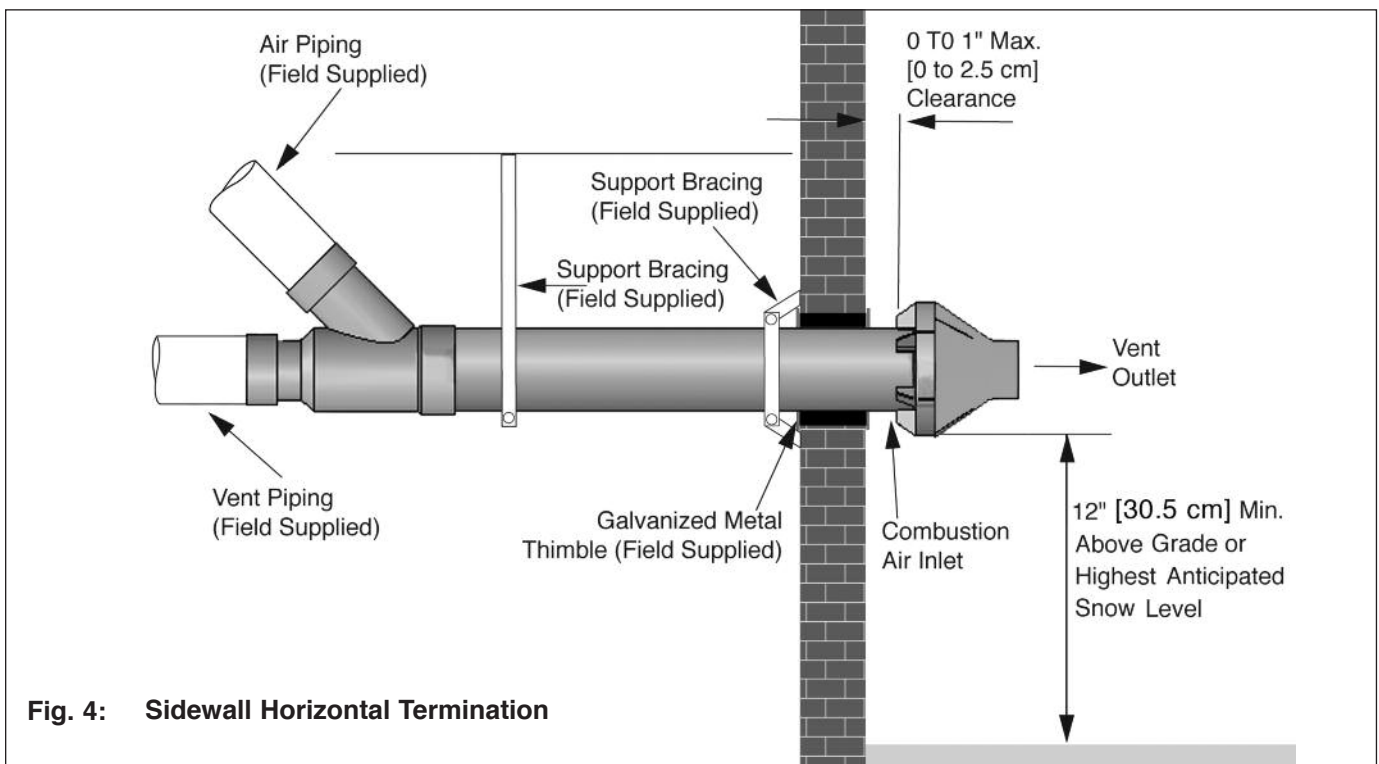

Fig. 4: Sidewall Horizontal Termination
2. The concentric vent/air termination assembly must be installed 12 inches [30.5 cm] above grade or highest anticipated snow level as shown in Fig. 4.
Do not extend the vent pipe outside the sidewall beyond the given dimensions shown in Fig. 4. Extended exposure of the vent pipe could cause condensate to freeze and block the vent pipe.
- g. A maximum of 1 inches [2.5 cm] beyond the exterior wall as shown in Fig. 4, page 9.
2. Support the termination assembly at the wall penetration as shown in Fig. 4, page 9.
Reference Fig. 4 page 9 for the configuration dimensions for the vent and combustion air inlet terminations for each unit installed in a multiple installation.